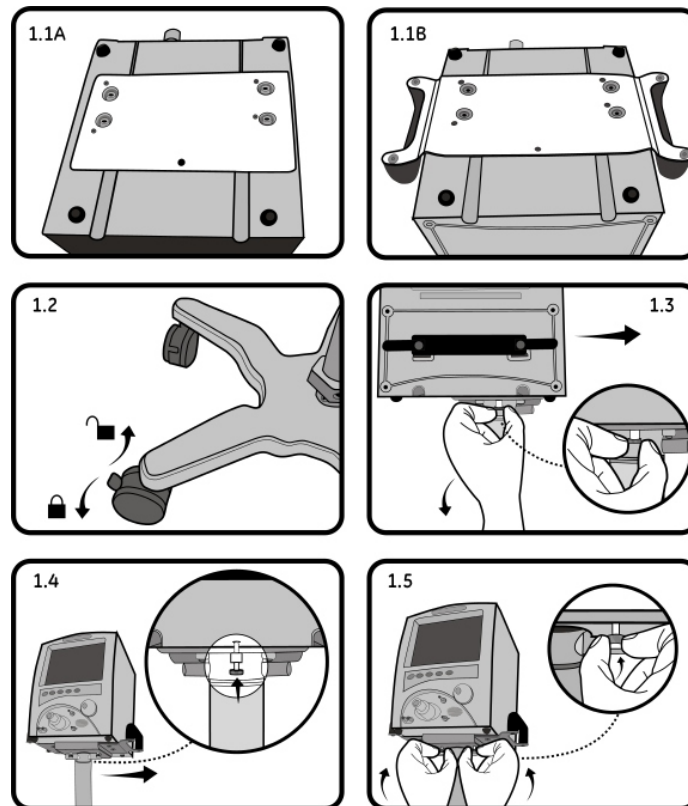

Figure 198: Mounting and Dismounting the Ventilator From the Roll Stand
1. Verify that the standard Transport Mounting Plate M1169908 (Figure 198 (1.1A)) or a Plate Cart Adapter M1161827 (Figure 198(1.1B)) is connected to the ventilator